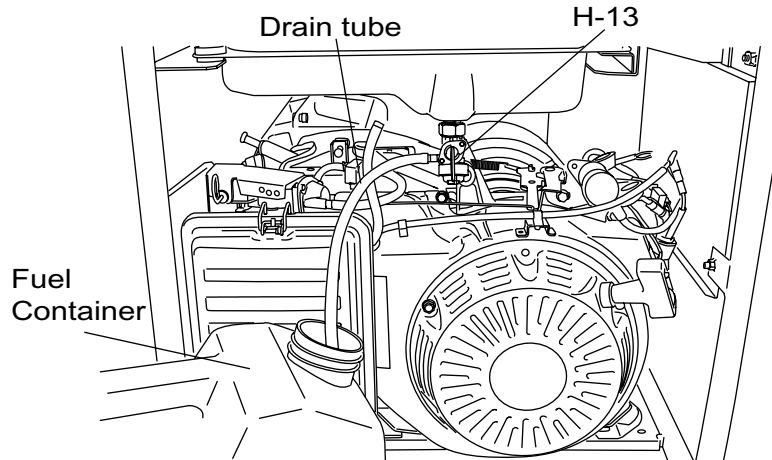

Figure 26: Draining Fuel from Fuel Tank
- (c) Disconnect the fuel hose from the fuel tank shutoff valve (H-13) (refer to Figure 26).